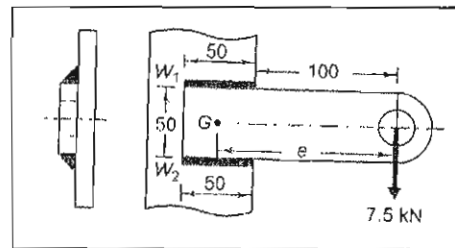

Fig. 2
6. A welded connection, as shown in Fig. 2 is subjected to an eccentric force of 7.5 kN. Determine the size of welds if the permissible shear stress for the weld is 120 N/mm2. Assume static conditions.